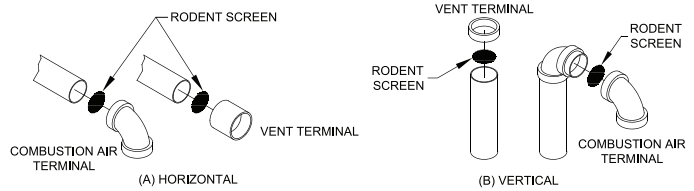

Figure 13: Rodent Screen Installation, Horizontal Vertical, Straight Vent Terminations
- Install rodent screen and vent terminal (supplied with boiler). See Figure 13 for appropriate configuration details.
- Install rodent screen and combustion air terminal (supplied with boiler). See Figure 13 for appropriate configuration details.
- Install rodent screen and vent terminal (supplied with boiler, see Figure 13 for appropriate configuration).
- Install rodent screen and combustion air terminal (supplied with boiler). See Figure 13 for appropriate configuration.
- Install rodent screen and vent terminal (supplied with boiler). See Figure 13 for appropriate configuration.